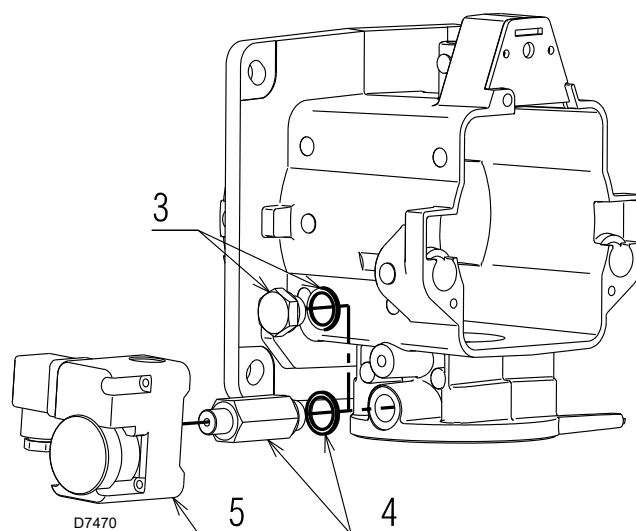

Fig. 3
- Remove the cap 3)(Fig. 3) and the relative gasket on the left-hand side of the pipe coupling.
- Do up the fitting 4)(Fig. 3) supplied in the kit placing a new gasket in the middle.
- Do up the pressure switch 5)(Fig. 3) to the fitting 4)(Fig. 3) using teflon or similar to guarantee the airtightness of the thread.